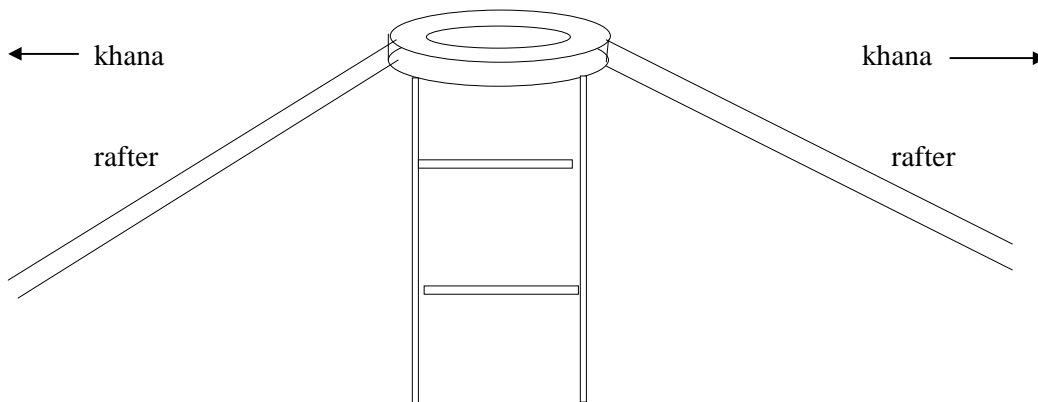

Figure 12: The center support.
During erection, the nails in the top of the support slide into the 2 holes you drilled in the bottom of the roof ring, and one person stands in the middle of the yurt holding this up while other people insert rafters (see Figure 12).
8. While one person is holding the ring up, other people insert the first 4-6 rafters (see Figure 12), evenly spaced around the yurt. (Start with one, then the one opposite it, then the ones between them, and so on.) The easiest way to insert a rafter is to stand outside the yurt, lift the rafter over the top of the khana at an intersection, push the angled end of the rafter into one of the slots in the roof ring, and then set the end you're holding onto the khana and push the notch over the top intersection. If you find that some rafters aren't quite fitting and some are trying to fall out, it means the ring isn't quite centered and needs to be moved. Be very careful when moving a "loaded" ring; falling rafters hurt! (When I'm the one holding the ring, I try to keep my head directly under the center of the ring, so I'll take any falling rafters on the shoulders instead of in the head.)